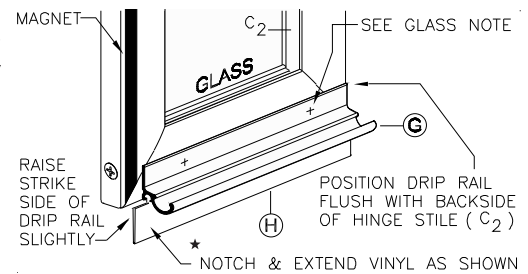
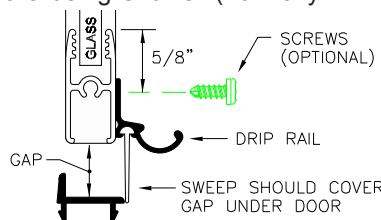
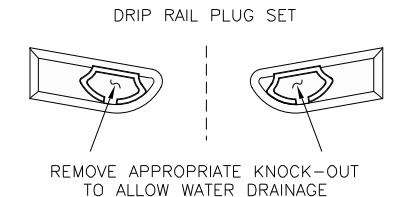

figure 6
figure 8
figure 7
8.\*Notch and extend Vinyl Sweep (H) pass Drip Rail edge as shown in figure 6. Attach Drip Plugs (I) onto Drip Rail (see exploded view - sheet 1), **be sure to remove the knockout on the hinge side drip plug so the water will drain** (see figure 7). Clean bottom rail of door with alcohol to remove any oil. Failure to clean door rail prior to installation of Drip Rail (G) may cause tape to release. Remove backing from tape and position Drip Rail flush with backside of Hinge Stile (c2) as shown in figure 6. Sweep should cover gap at bottom of Door as shown in figure 8. Slightly elevate Drip Rail at strike side prior to securing to create a sloping effect.